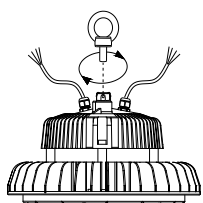

Figure 1
1. Please screw the lifting ring into the high bay light fixture, then tighten firmly. (Figure 1)